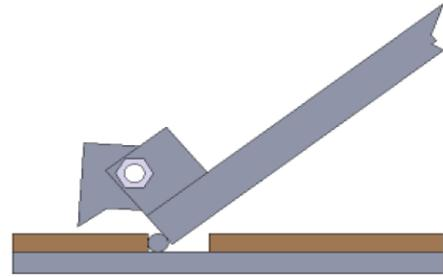

Fig.15
- Press the lifting button till the lift is raised to the required height and the locks are in engaged position (see Fig.15), then press the lowering lever to lower the lift to engage the mechanical safety.